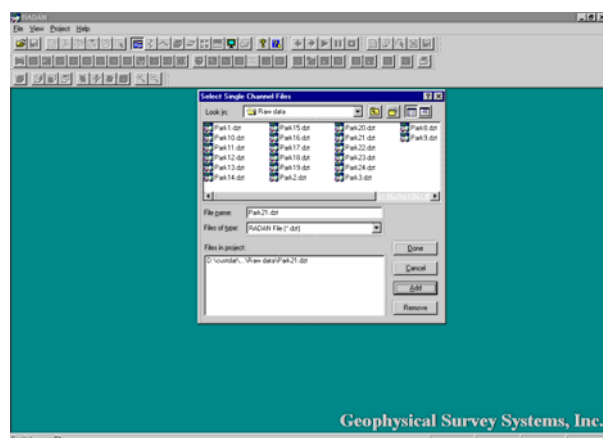

Figure 28: Select Single Channel File dialog box open. First profile segment selected.
- 2** Select each file segment IN SEQUENCE and select Add from the dialog box. In Figure 28 the first file segment has been selected.